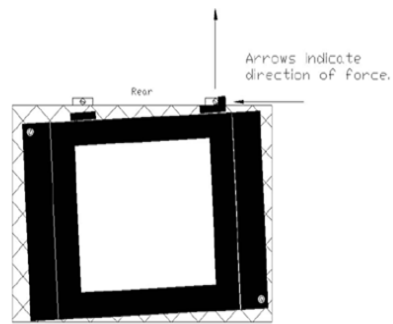

Figure 6 Aligning the plate holder
- f. Slide the plate holder in place so that the "L" plate is against its associated stage pin. It should be touching the pin both on its flat side and on its extended side. (Figure 6)